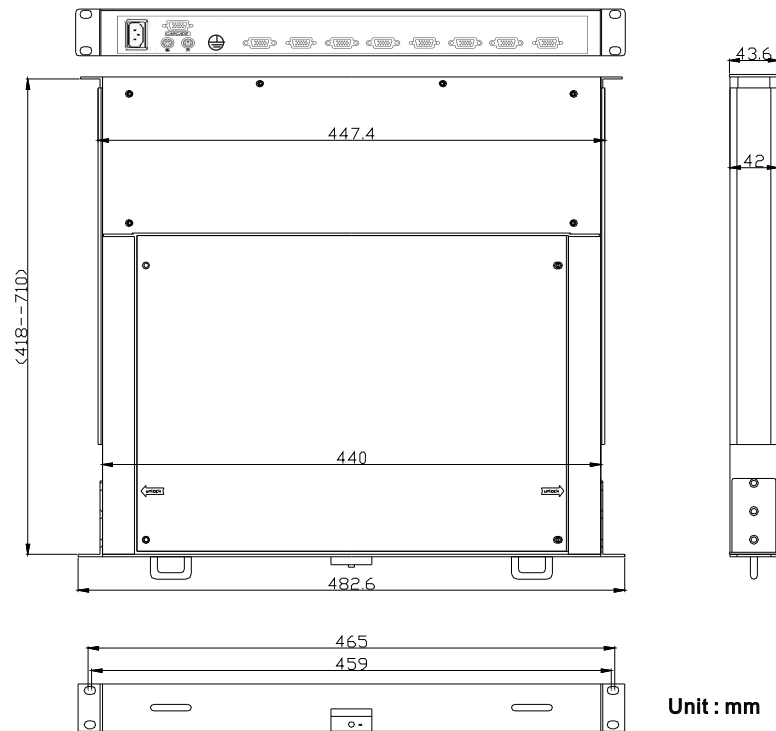

Fig.3
1.4 Mechanical Dimensions (see fig.3)